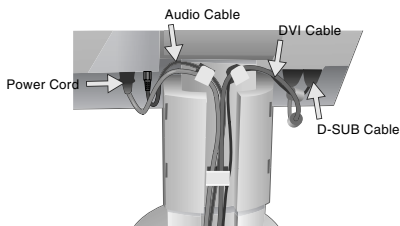

Figure C.2
5. For successful cable management, place the cables in this order into the cable management: Power cord and DVI cable (**Figure C.2**).
6. Place power cord and audio cable into the specific hooks indicated in **Figure C.2**.
7. Place the DVI cable and D-Sub cable into the specific hooks indicated in **Figure C.2**.